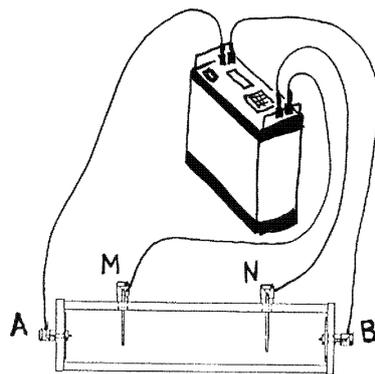

Figure 16 Sting with the soil box accessory for laboratory measurement of soil samples.
- Connect the Sting to the terminals of the soil box, see Figure 16.